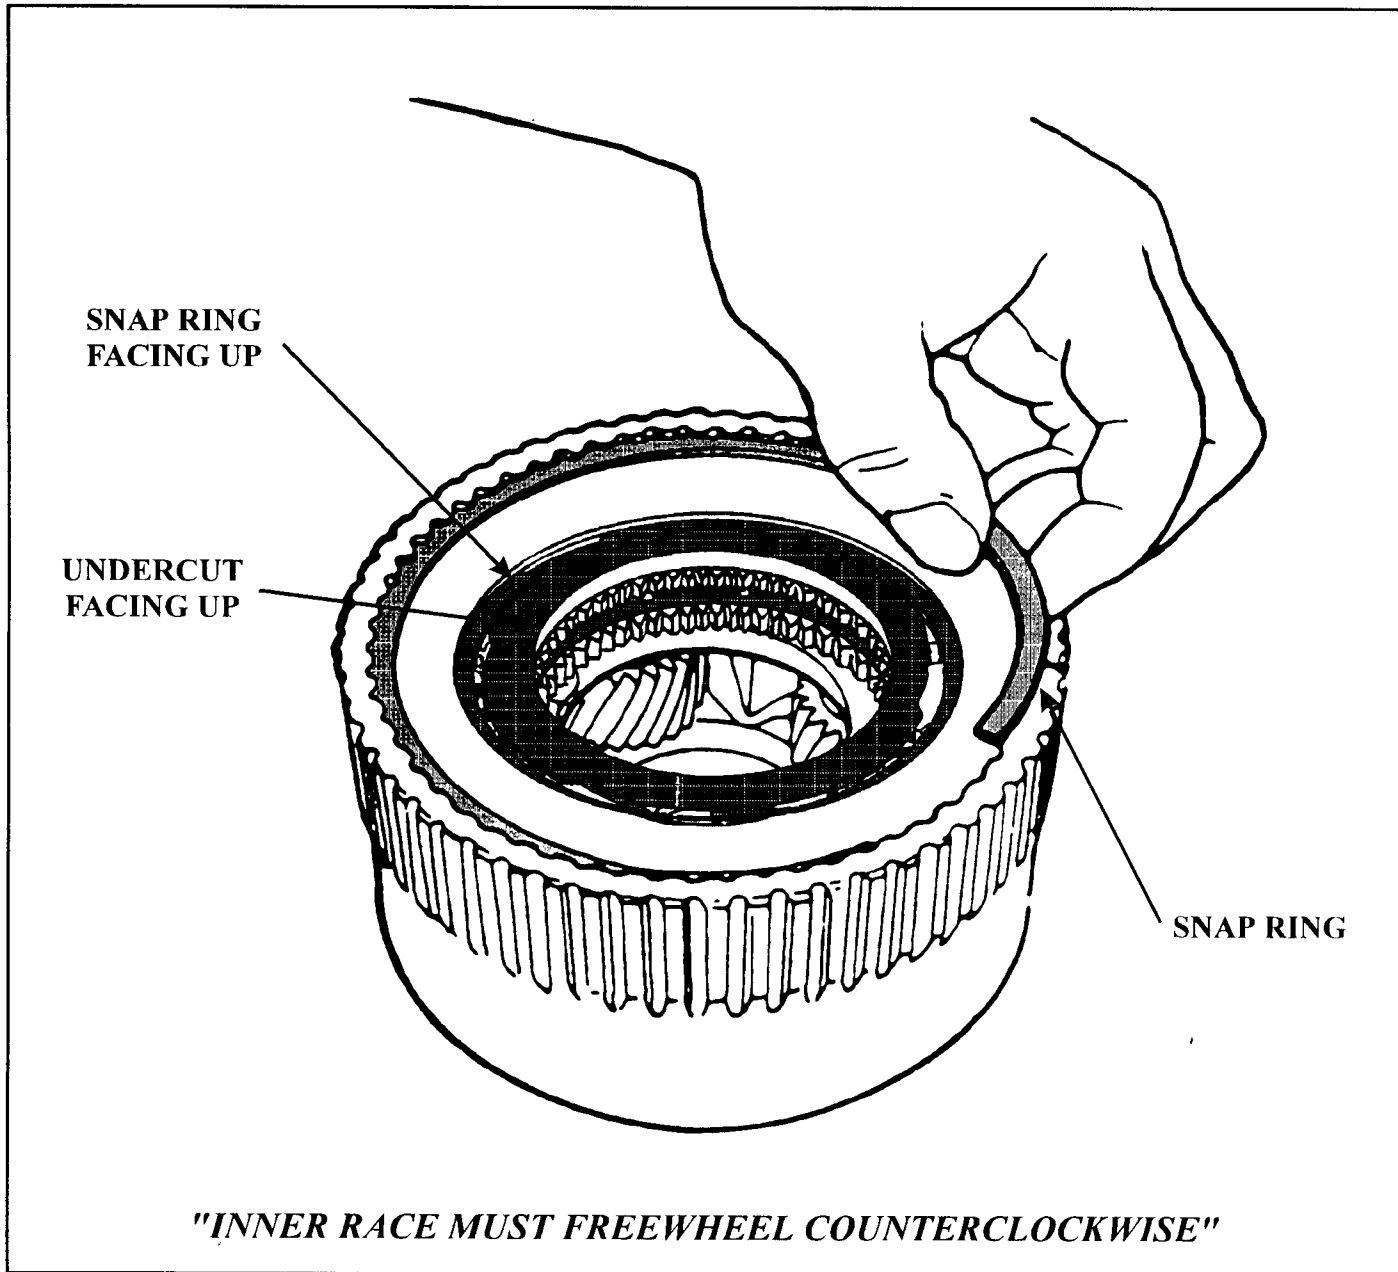

Figure 42
- (6) Install the completed Overdrive Roller Clutch Assembly into the overdrive ring gear, with the snap ring and the inner cam undercut, *facing up*, and install the outer race to ring gear snap ring, as shown in Figure 42.